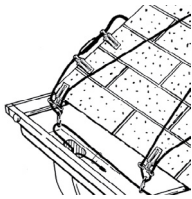

Figure 10. Starting point near roof edge
**Attaching the cable at the starting point.** Near the outlet, first, attach the cable to the edge of the roof near the outlet using the clips as shown in Figure 10 or 11. Do not plug in the cable at this time. Then, route your cable as planned on your roof or in your gutter and downspouts. Details on clip and spacer attachment are provided in the following sections.